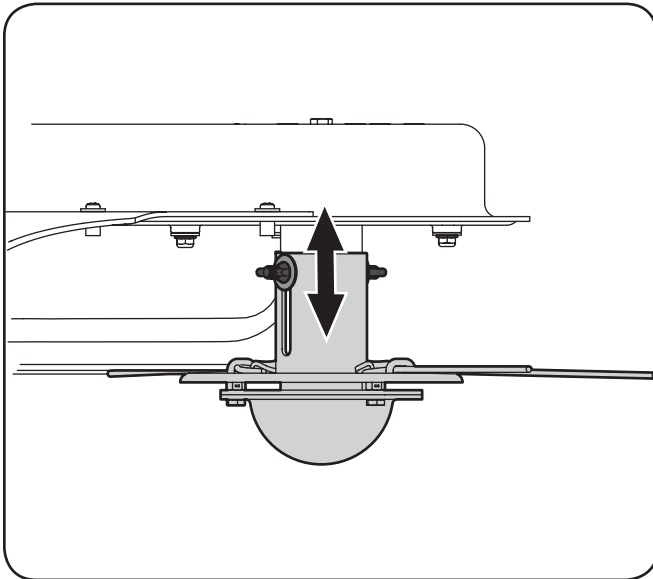

Figure 5-1
2. Slide the spindle upward or downward to the desired position before retightening the wing nuts. See Figure 5-1.